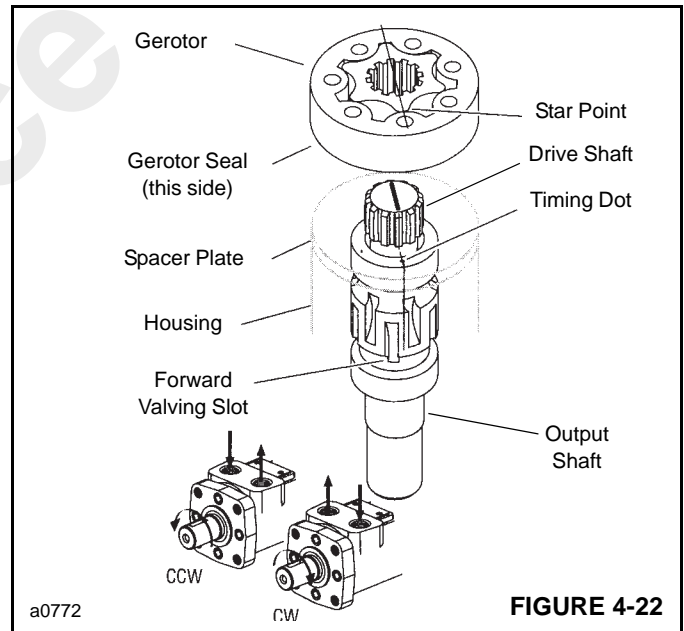
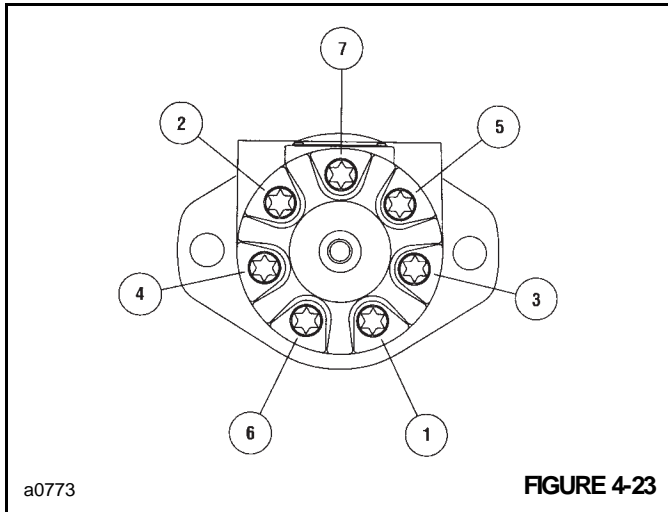

FIGURE 4-22
FIGURE 4-23
- Install drive shaft (14) Figure 4-13. Use a felt tip pen to mark one drive tooth. Align this mark with the timing dot on the output shaft Figure 4-22.
**NOTE:** If drive shaft (14) is not symmetrical, install larger splined end into output shaft (9).
- Install spacer plate (15).
- Install seal (13) in gerotor seal groove. Carefully place gerotor on spacer plate, seal side toward the spacer plate. Align any star point with tooth marked on drive shaft Figure 4-22.
- Rotate gerotor (16) to line up with bolt holes. Be careful not to disengage star from drive or disturb the gerotor seal.
- Install seal (13) in end cap (17). Carefully place the end cap on gerotor (16).
21. Install capscrews (19) and seal washers (18) in end cap (17). Tighten the capscrews to 7.4 Nm (40 lb-in). Make sure the seal washers are properly seated. Then, tighten the capscrews to a torque of 27-28 Nm (235-250 lb-in) in the sequence shown Figure 4-23.